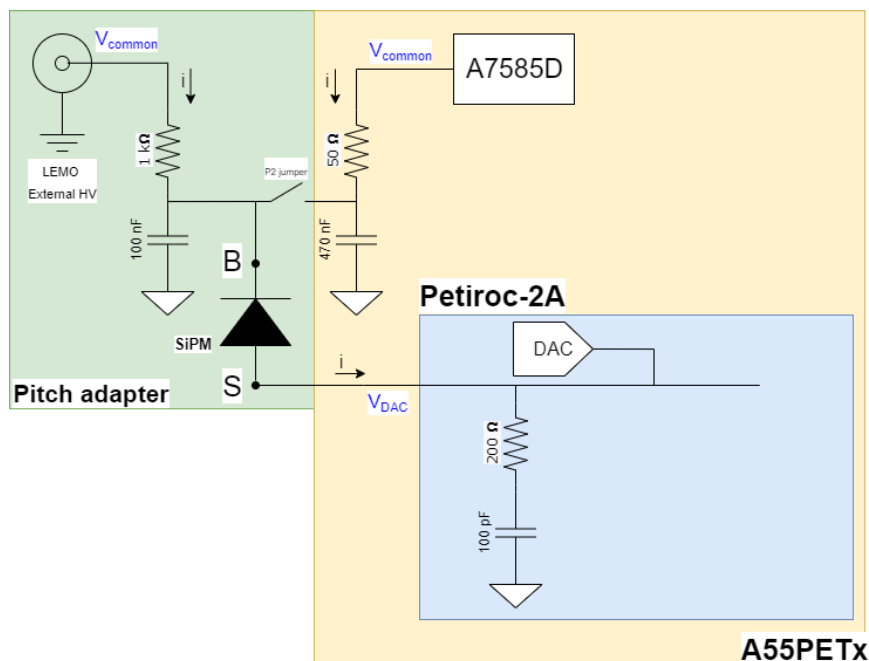

Figure 10.6: SiPM connection scheme to the ASIC and biasing lines when using the pitch adapter kit
The adapter provides 64 signal readout lines (S_x) and 64 sensor bias (B) lines. Each adapter has two 2.54mm-pitch strip connectors, each one exposing 32 bias/signal couples. Once the adapters are plugged in, the bias can be provided by the A7585D on the A55PETx board itself or externally through the LEMO HV connector available on the adapter. The jumper P2, if inserted, connects the bias pins to the DT5550W High Voltage generator while the LEMO connector is always connected to the Bias pins. The adapter is designed to optimize connections to SiPMs. Each detector has independent bias lines filtered with 1k Ω resistor and 100nF capacitor, as shown in Figure 10.6
External HV	LEMO HV. External High Voltage input for SiPM biasing. Connection to SiPMs cathodes as shown in Figure 10.6 . The external HV connector is always connected to the Cathode pins B